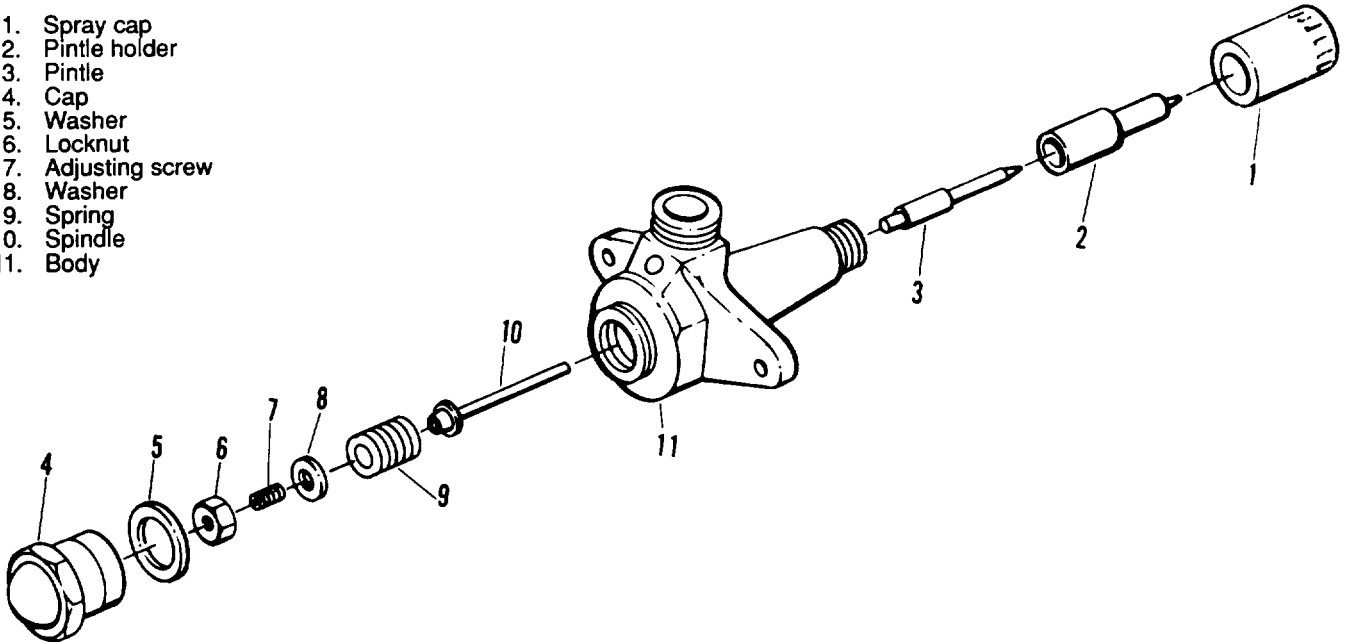

Figure 3-25. Fuel Injection Nozzle Holder, Exploded View
(1) Unscrew spray cap (1, figure 3-25) and remove pintle holder (2) and pintle (3).
(2) Remove cap (4) and washer (5).
(3) Remove lock nut (6), adjusting screw (7), and washer (8) to remove spring (9) and spindle (10) from body (11).
(1) Install spindle (10, figure 3-25) and spring (9) into body (11).
(2) Install washer (8), adjusting screw (7) and locknut (6).
(3) Insert pintle (3) into pintle holder (2).
(4) Position pintle holder in body and secure with spray cap (1).
(5) Do not install washer (5) and cap (4) until after adjustment.
(7) Observe fuel spray. Fuel spray shall be even and smooth. Spray cone shall be same thickness at a distance of 5 inches. There shall be no signs of leakage.
(8) Remove fuel pressure and remove nozzle holder from testing fixture.
(9) Install washer (5, figure 3-25) and cap (4).